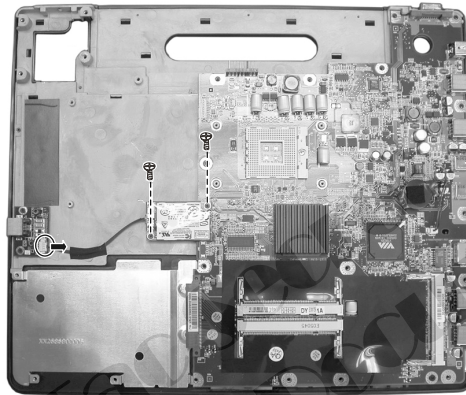

Figure 2-25 Free the modem card
4. Disconnect the modem card's cable, then remove the two screws and free the modem card. (Figure 2-25)